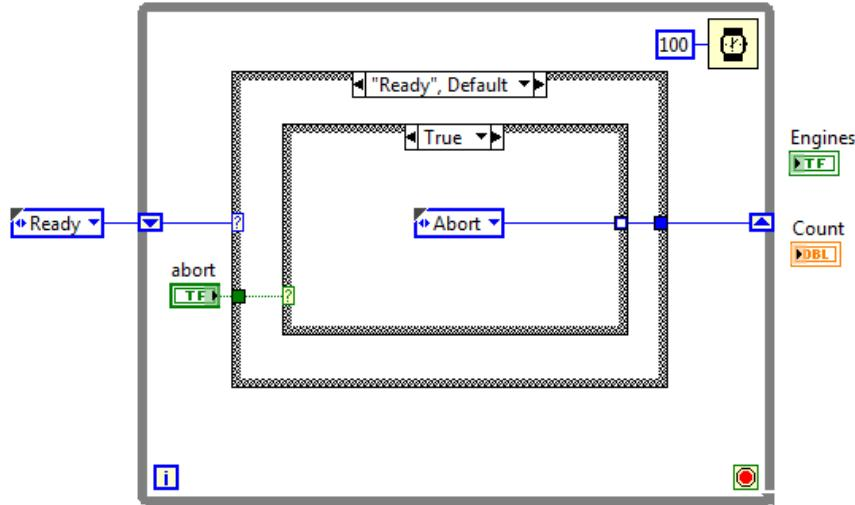

FIGURE 2.8 Wiring the Ready state to handle the Abort button being pressed.
4. Grab the terminal for the Abort button and put it inside the While Loop, close to the left side. You are doing this now to help you size things right in the next step. (As you go through the next few steps, you may find it useful to look ahead to Fig. 2.8.)
10. Wire the control to the shift register as shown in Fig. 2.8. Note the tunnel that appears as a white square. This is an error (which we will fix in a moment). It is telling you that you have not wired to this output in every case. You must provide a valid output for every case in order for the program to run. Note the 100 ms delay, which every program that waits for human input should have!